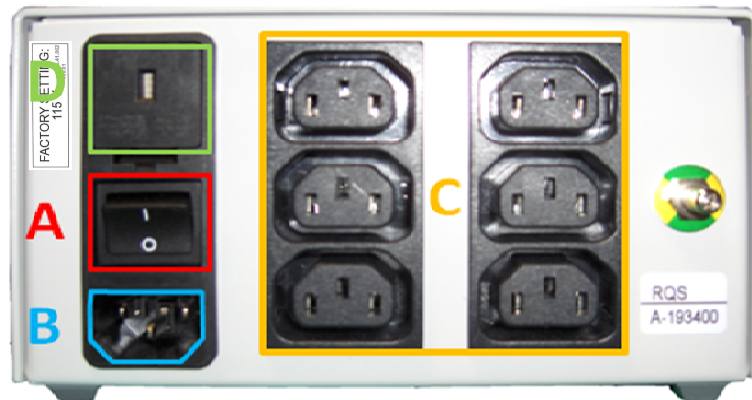

Figure 17 – REOMED 600 wiring
Connect the X end of the iMAC® power cable in one of the sockets (C in figure 17) of the REOMED® 600 isolation transformer, likewise insert the power cable of the Polaris Spectra in another of these sockets.
Check that the switch (A in figure 17) is set to OFF (O) and insert the remaining power cable into the input socket of the isolation transformer (B in figure 17) and into the mains power outlet.
Check that the input voltage agrees with the local mains voltage reading the number you can see through the slot of the fuse-holder on the transformer's rear (D in figure 17). (230 for 220V mains voltage – 115 for 110V mains voltage). If the voltages disagree, refer to the qualified technical staff.
Turn on the REOMED® 600 isolation transformer by setting the switch (A in figure 17) to ON (I).